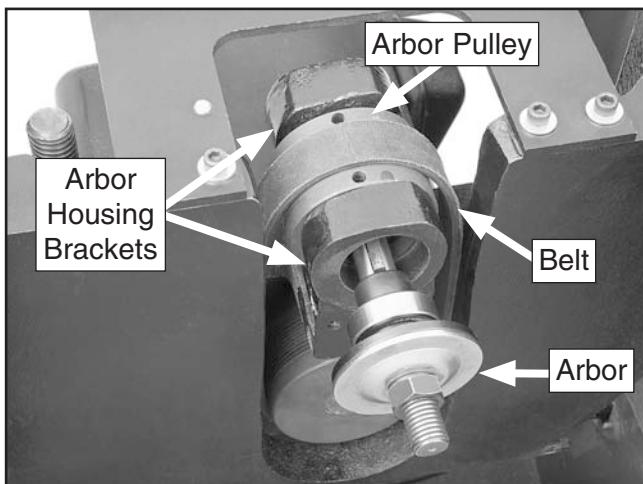

Figure 142. Re-installing arbor and belt.
- 24.** Place the arbor pulley between the arbor housing brackets, slide the belt over the pulley, then insert the arbor into the pulley, as shown in **Figure 142**.